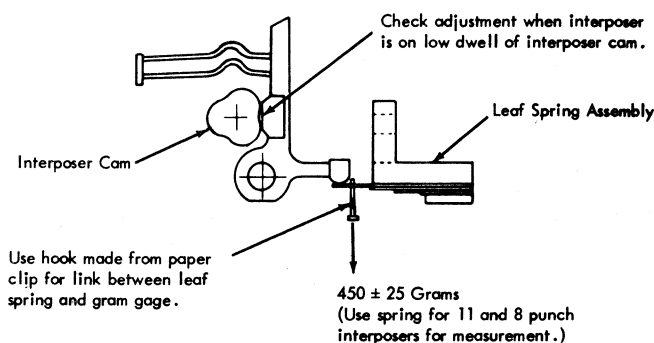

Figure 4-40. Interposer Leaf Spring Assembly Adjustment
2. Turn punch mechanism so interposer cam follower shoes are fully actuated by low dwell of interposer cam. Adjust leaf spring assembly so  $450 \pm 25$  grams tension is required to break a leaf spring away from the point of contact with its associated interposer. Use the 11 and the 8 interposer leaf springs to check this adjustment. Figure 4-40 indicates the point on the springs at which tension measurement is made.